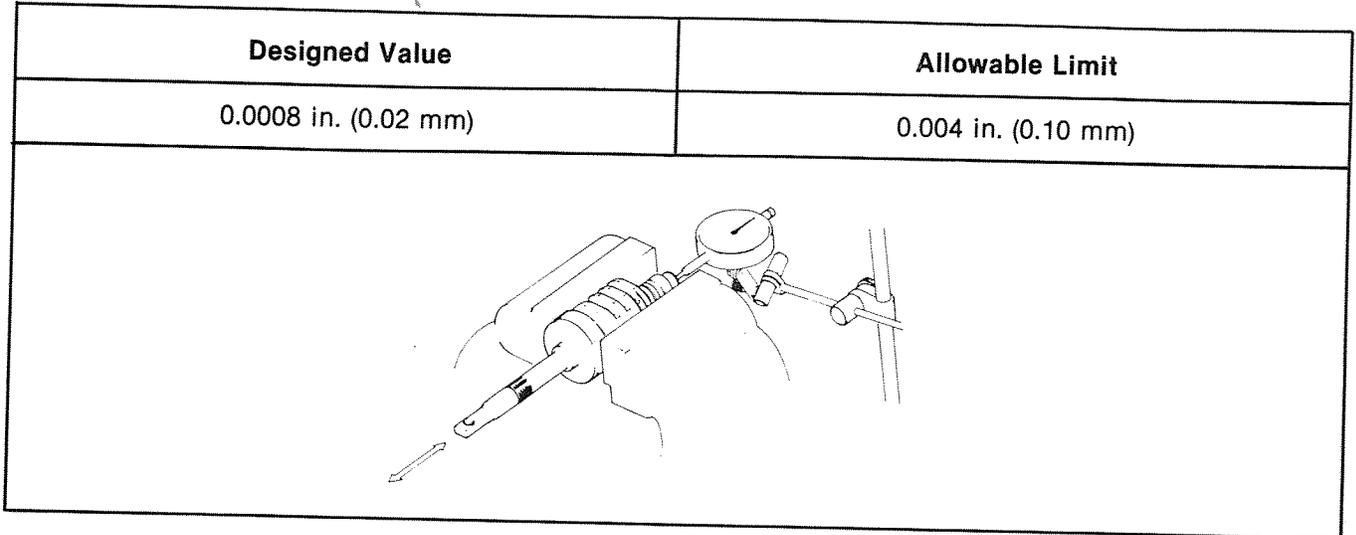

Figure 39
3. Clamp the ball nut in a vise and measure the end play of the worm shaft, Figure 39. If the end play exceeds 0.004 in. (0.10 mm), replace the shaft.